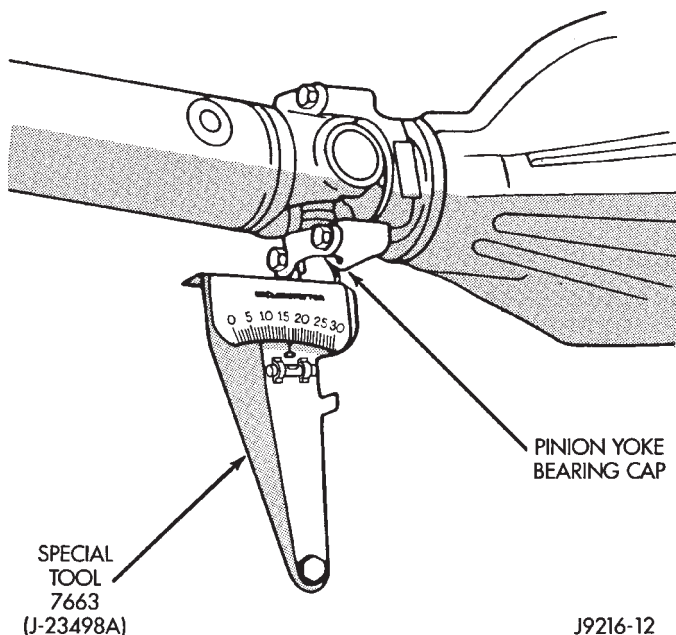

Fig. 9 Rear (Input) Angle Measurement (B)
(4) Subtract smaller figure from larger (C minus A) to obtain transmission output operating angle.
(5) Rotate propeller shaft 90 degrees and place Inclinometer on pinion yoke bearing cap parallel to the shaft (Fig. 9). Center bubble in sight glass and record measurement.